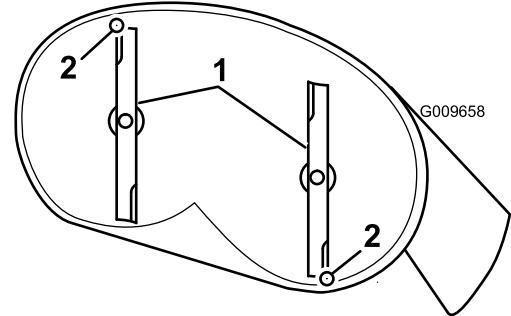

Figure 55
4. Carefully rotate the blades so they are facing front to rear (Figure 55).
5. Measure from the tip of the front blade to the flat surface, and the tip of the rear blade to the flat surface (Figure 55).
9. After adjustment, check the front-to-rear slope again, continue adjusting the nut until the front blade tip is 1.6 to 7.9 mm (1/16 to 5/16 inch) lower than the rear blade tip (Figure 55).